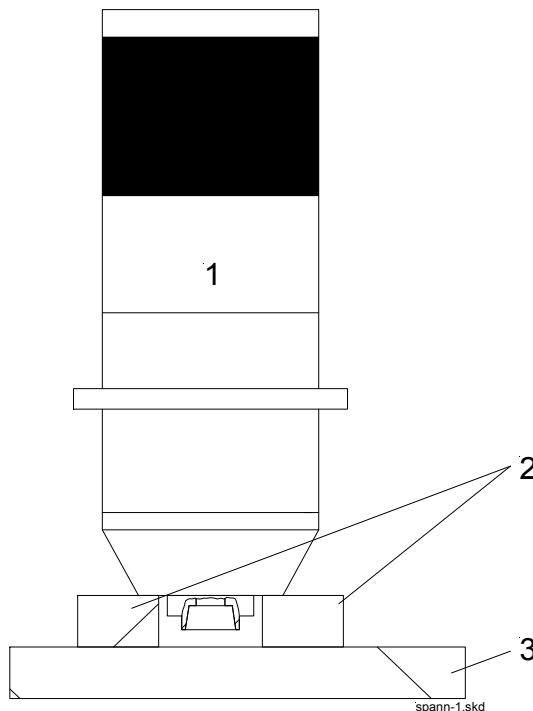

Fig. 4-1: "Positioning the spindle on the machine bench"
1. Place the two ground steel support plates with the same thickness on the machine bench (see fig. 4-1). Lift the spindle onto the bench and place it on the support plates so that the non-moving part is on the plate. This prevents damage to the clamping system.